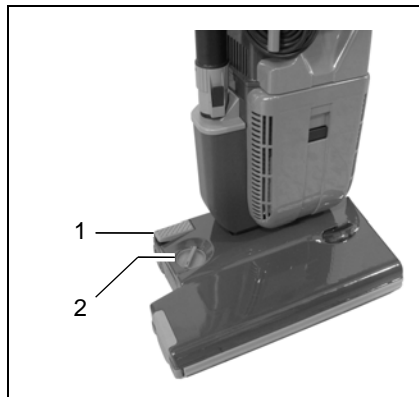
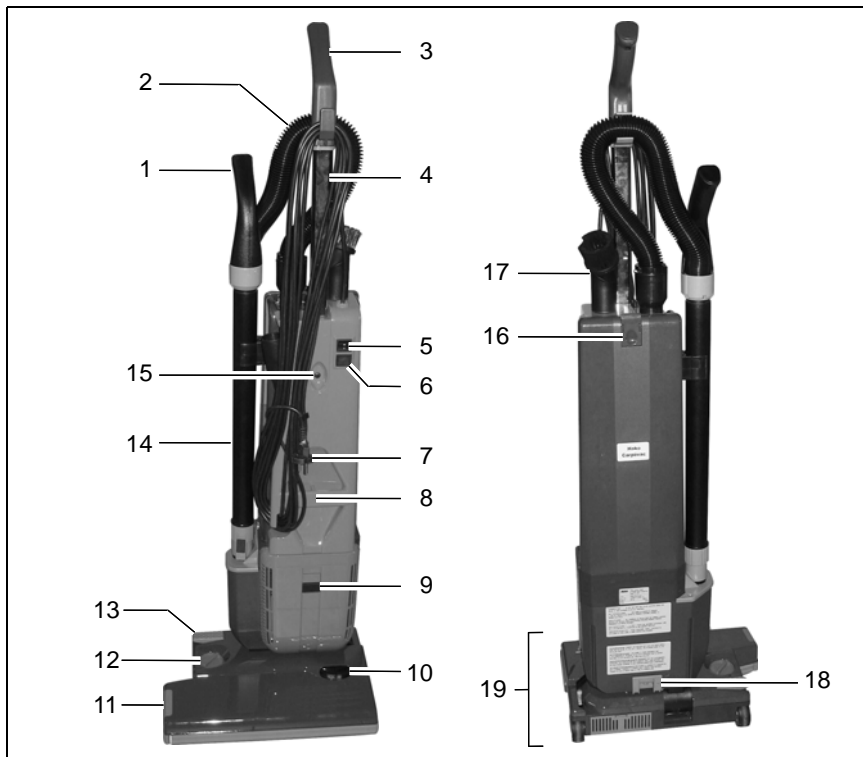

Fig. 4
Fig. 6
1. Switch the Minuteman Phenom on using the On/Off switch (Fig. 6/5) and move the locking device (Fig. 4/1) to its working position.
3. Turn the rotary knob (Fig. 4/2) clockwise: set the brush lower.
4. Turn the rotary knob (Fig. 4/2) counterclockwise: set the brush higher.
Handle (Fig. 6/3)
(Fig. 6/14 and 6/2)
On/Off switch (Fig. 6/5)
Change filter indicator (Fig. 6/6)
for shaft (Fig. 6/15)
with cable (Fig. 6/7)
Carrying handle (Fig. 6/8)
Locking device (Fig. 6/13)
(Fig. 6/12)
for brush pressure (Fig. 6/10)
Nozzle (Fig. 6/1)
- Check the paper filter bag, remove and change when the filter change indicator (Fig. 6/6) lights up.